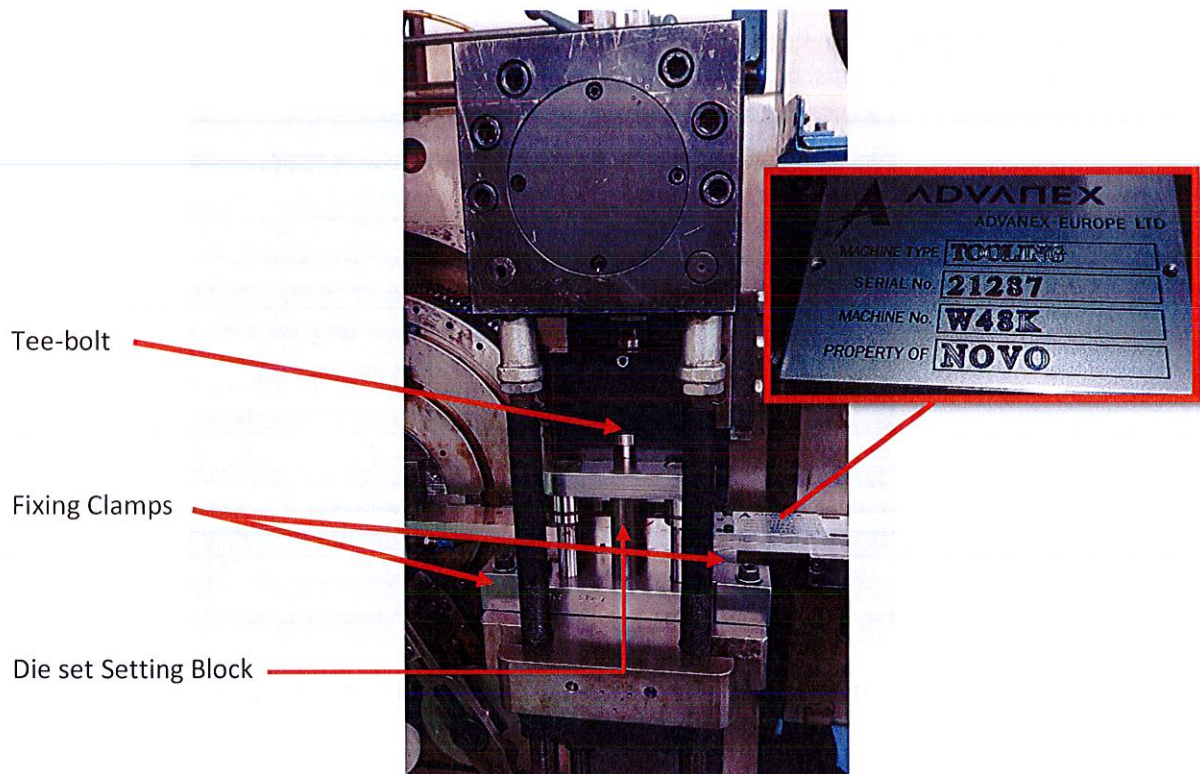

Figure 5: Die set in position on Press Table and Tool Identification
- Put the Die set onto the press table, the die set tee-bolt will locate into the press slide. Fix the die set onto the press table using the two fixing clamps as shown in figure 5.